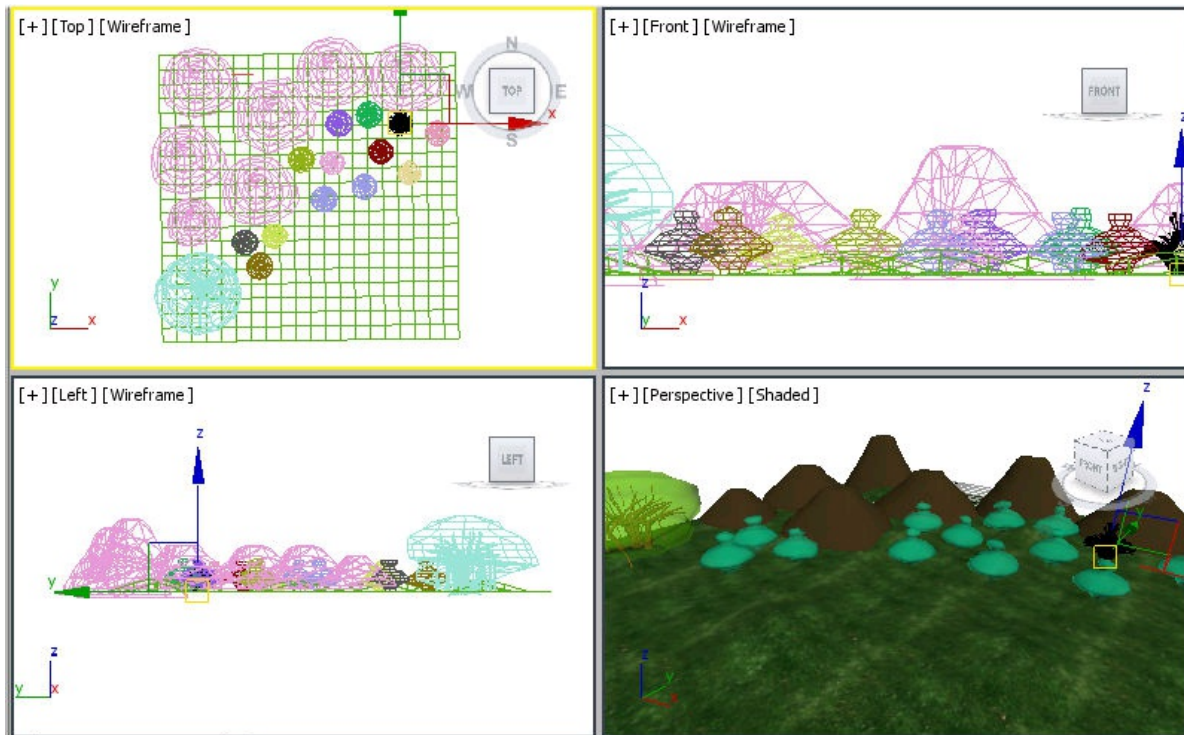

Figure 11-100 Alignment of trees in viewports
9. Create multiple copies of the *tree02* and align them, as shown in Figure 11-100.